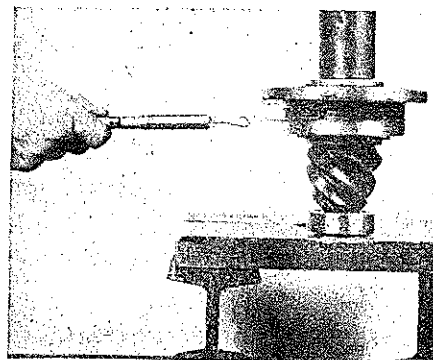

Fig. 170 Checking pinion shaft bearing preload
6. While in a press under 25,000 pounds pressure, check bearing preload torque. Wrap soft wire around cage, Fig. 170, and pull on a horizontal line with a pound scale. If a press is not available, the yoke may be installed and the pinion nut tightened to 300-400 foot pounds torque for checking. If rotating torque is not within 12-18 inch-pounds, use thinner spacer to increase or thicker spacer to decrease preload. As an example, assuming the pinion cage diameter to be 6", the radius would be 3" and with five pounds pull would equal 15 inch-pounds preload torque.